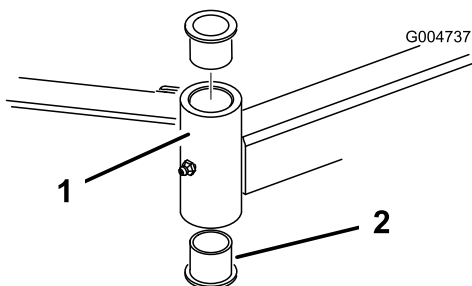

Figure 81
4. Insert a pin punch into the top or bottom of the mounting tube and drive the bushing out of the tube (Figure 81). Also drive the other bushing out of the tube. Clean the inside of the tubes to remove dirt.